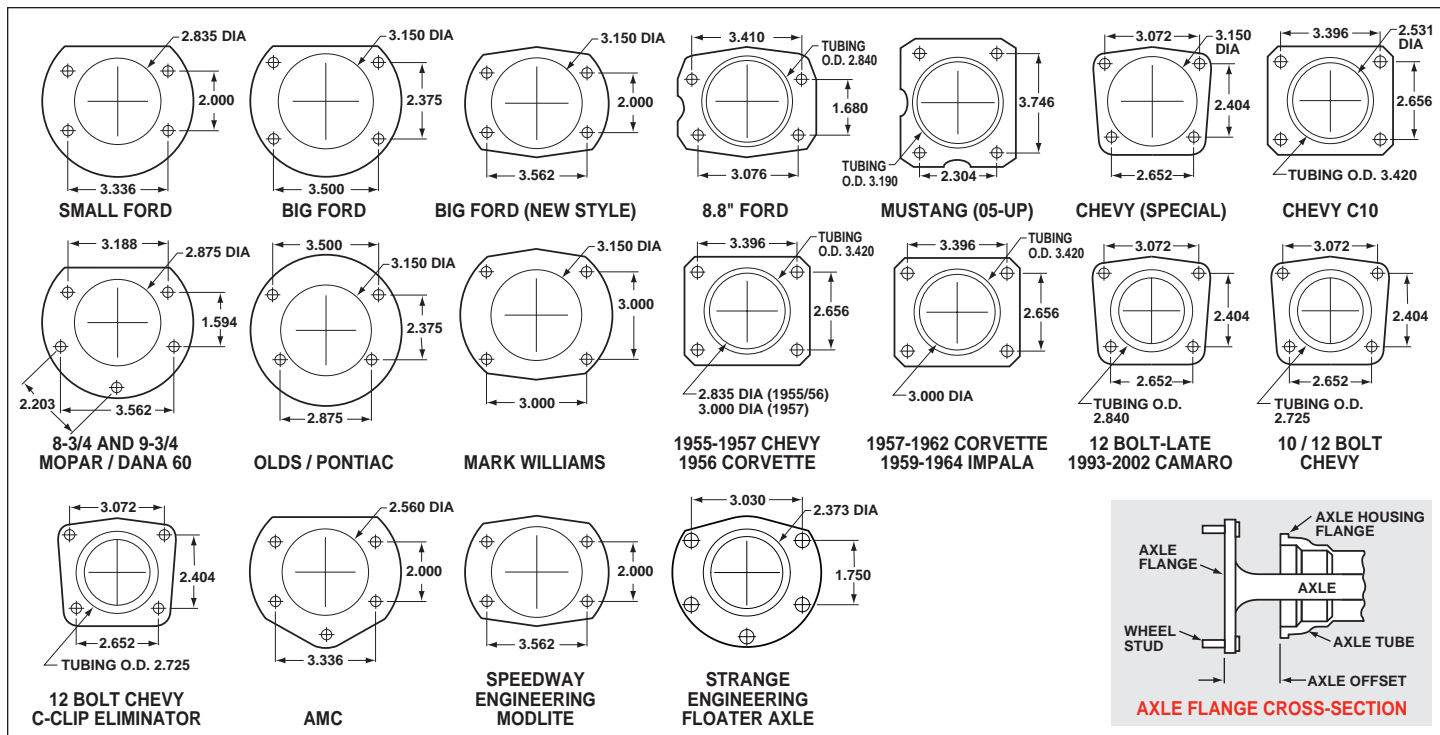

Figure 9. Rear Housing Flange Chart and Axle Flange / Offset Cross-Section
- Make sure this is the correct kit to fit the axle housing flange, not necessarily the rear end make. Many times after market manufacturers put a different make of axle housing flange on the stock rear end housing (see Figure 9). Example; Big Ford rear ends with Olds-Pontiac flanges, therefore, an Olds-Pontiac rear disc brake kit would be the correct kit to order. Also, shock clearance may be a problem. They may have to be modified and/or relocated to clear the Wilwood kit after final assembly.
- Dimension from wheel side of axle flange to wheel side of axle housing flange (see Figure 9, lower right hand corner). This dimension is critical to ensure proper alignment of the rotor to the caliper, and should match offset given in the kit description.